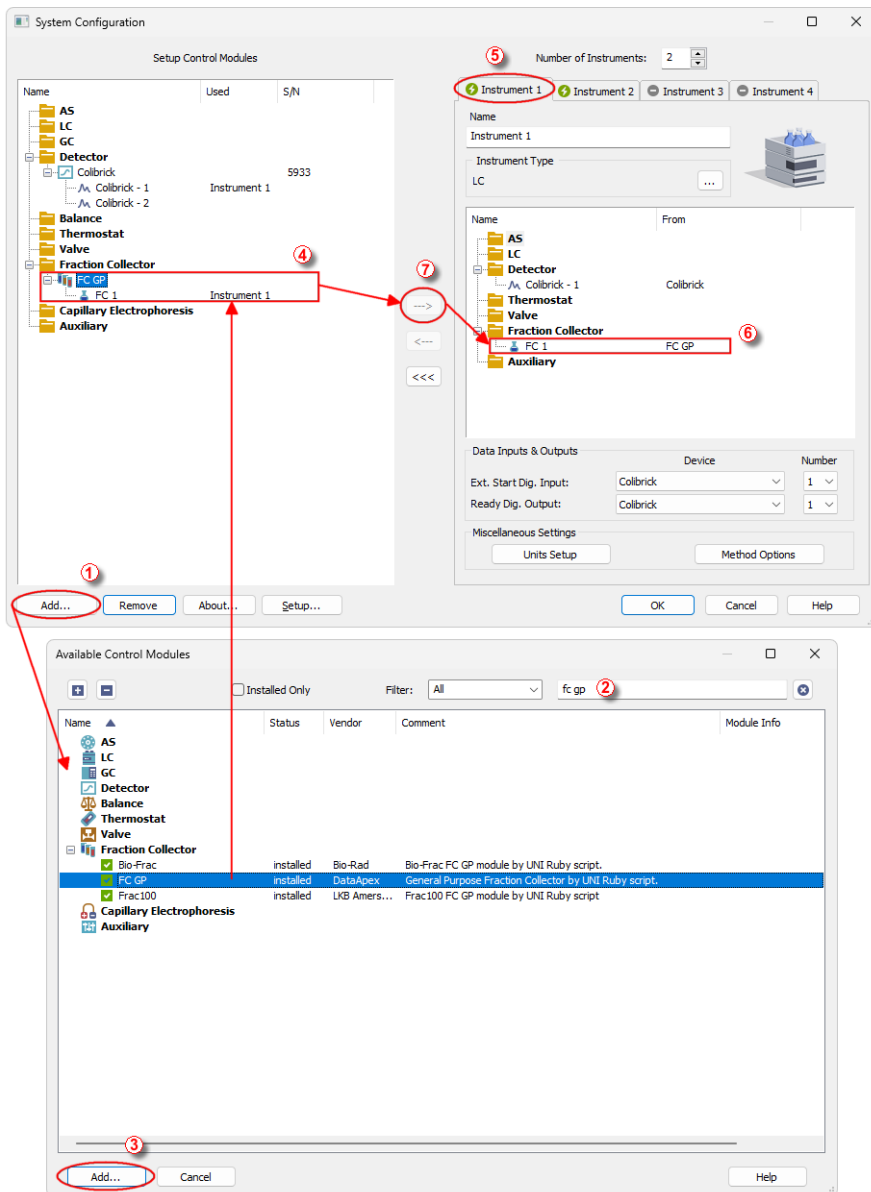

Fig. 2: System Configuration - adding the FC GP
- Press the *Add* button ① (See **Fig. 2** on pg. 4.) to invoke the *Available Control Modules* dialog.
- You can specify the searching filter ② to simplify the finding of the driver.
- Select the **FC GP** and press the *Add* ③ button.